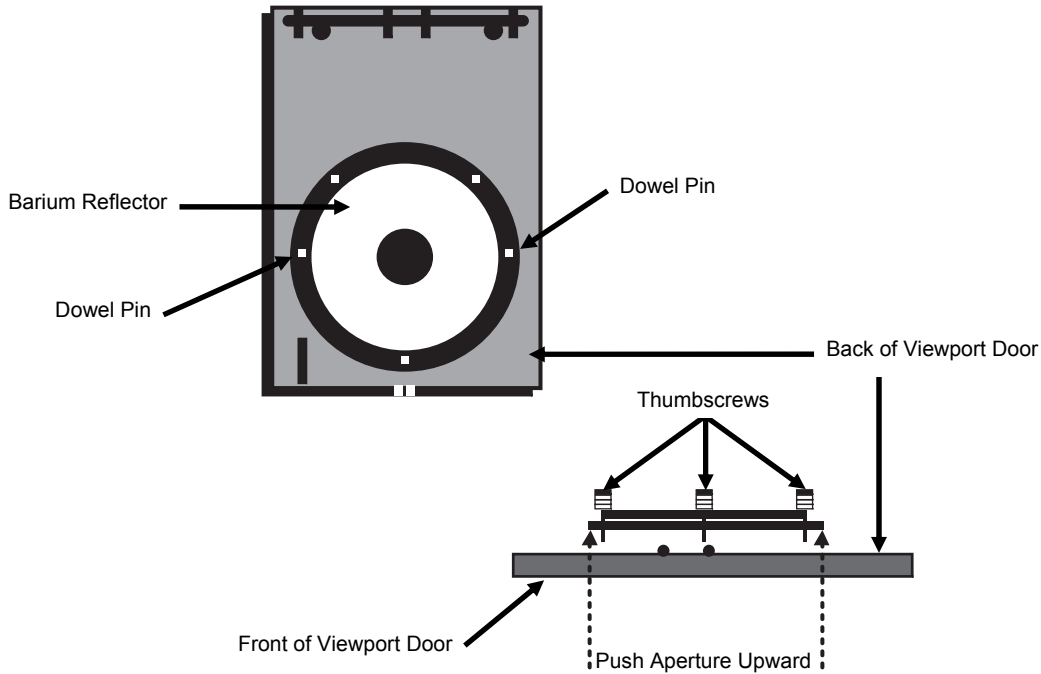

Figure 4-8. Changing the Sampling Aperture, Step 3.
- Reach under the viewport door and push the Large Area Aperture upward from the front side of the door. Push upward until the aperture is free from the two dowel pins which assist in aperture placement and alignment. See Figure 4-8. After removing the Large Area Aperture, place it in the aperture storage box for safe keeping.